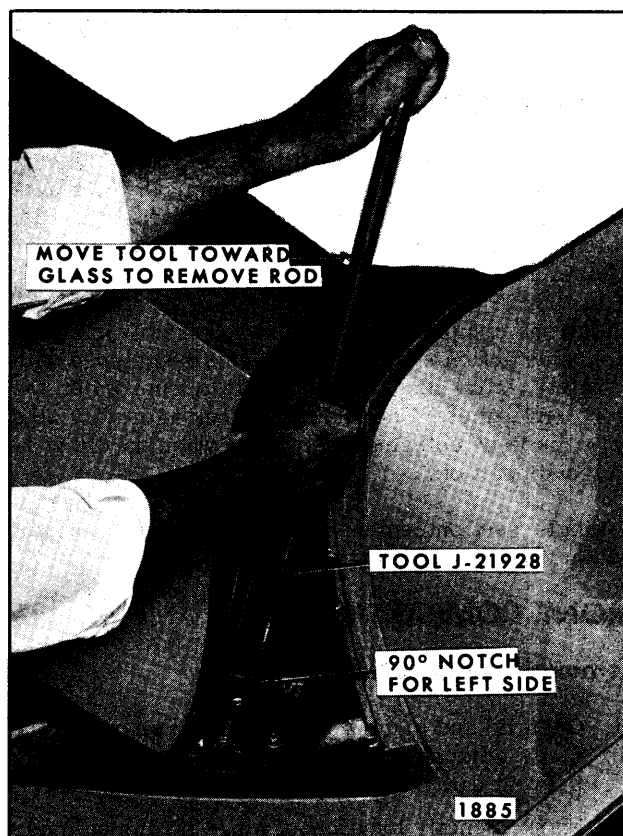

Fig. 5-17—Torque Rod Removal - Left Side
7. In like manner remove rod on left side of body (Fig. 5-17).